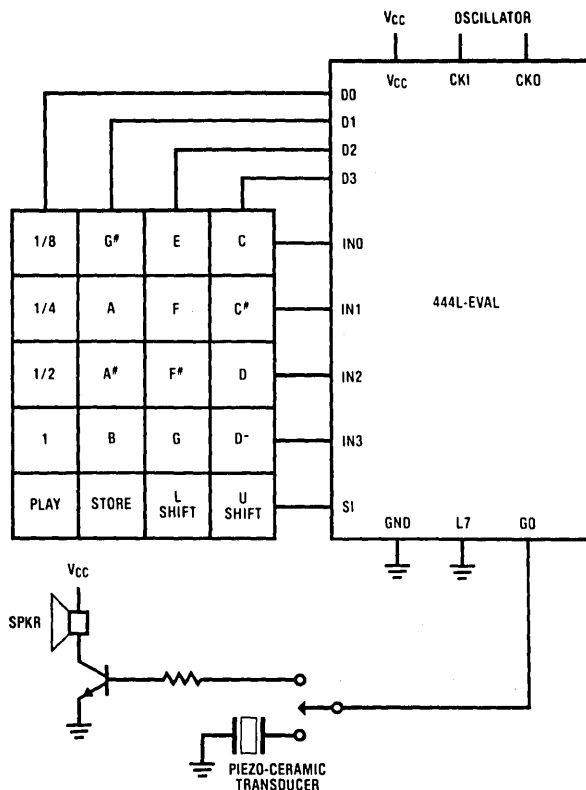

FIGURE 9. Counter/Timer
1. By making only the oscillator, power supply and "L7" connections, (Figure 9) an approximate 1 Hz square wave will be produced at output "D1." This output may be observed with an oscilloscope, or connected to additional TTL or CMOS circuitry.
3. All 4 digits of the counter may be displayed by connecting a standard display controller (COP472 for LCD, MM5450 for LED) as shown in Figure 9.
4. The simple counter described above becomes a timer when the 1 Hz output is connected to the "counter input." Up or down counting may be used with input frequencies up to 1 kHz. Improved timing accuracies may be obtained by substituting the 2.097 MHz crystal oscillator circuit of *Figure 4a* for the RC network shown in *Figure 9*, or by connecting a more stable external frequency to the "counter input" in place of the 1 Hz signal.